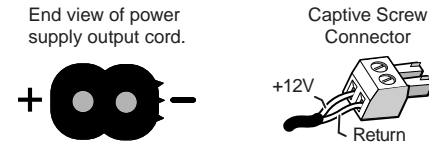

Figure 4 — Power connector wiring
- ① **Video Input connector** — (MDA 5V - composite video and MDA 5SV - S-video) Connect an input to this connector.
- ② **Video Outputs (1 through 5) connectors** — Connect up to five video devices to these connectors. (MDA 5V - composite video and MDA 5SV - S-video).
- ③ **Power connector**— Plug the external 12V power supply into this 2-pole captive screw connector. Figure 4 shows how to wire the connector.